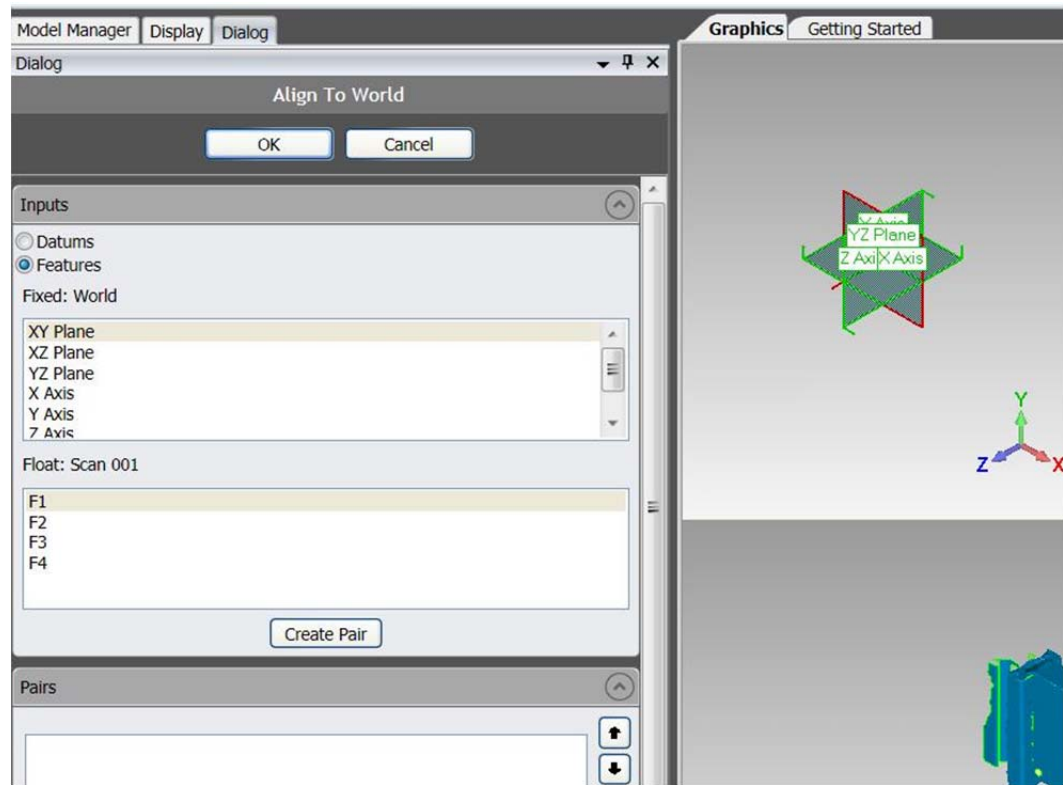

Figure B-7. Align to World Dialog and Pairing
- Once all planes are captured (at least 3) you need to pair them with the world coordinate system to establish a sample coordinate system under the Alignment tab in GeoMagic and clicking the Align to World icon (Figure B-7).